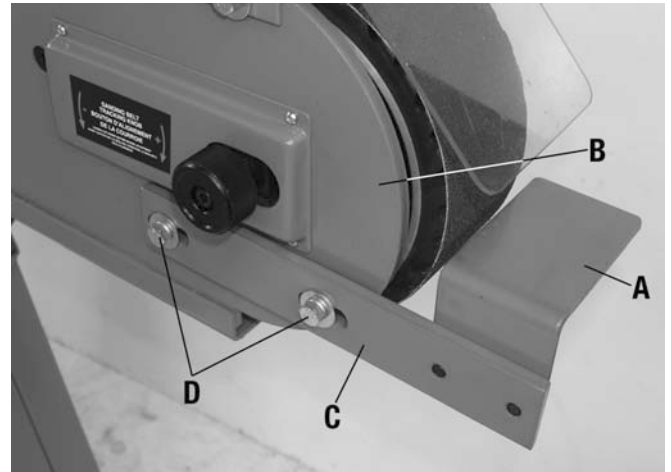

FIGURE 4
1. Install the work support assembly (A) Fig.4 to the frame (B) of the machine, first place 2 washers between the frame and the work support arm (C).
2. Then secure the work support assembly to the frame using 2 hex. bolts, lock washers and washers (D).